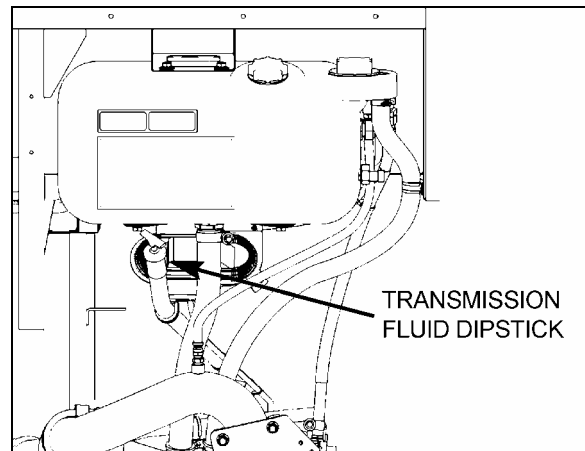

FIGURE 4: OIL LEVEL DIPSTICK (ALLISON) 01195
To gain access to the dipstick, open the engine compartment rear doors; dipstick is located on the radiator side of the engine (Fig. 4).
5. Finally shift to Neutral (N) and allow the engine to idle (500 - 800 rpm).
6. While the engine is running, remove the dipstick from the tube and wipe it clean (Fig. 4). Insert the dipstick into the fill tube, pushing down until it stops.